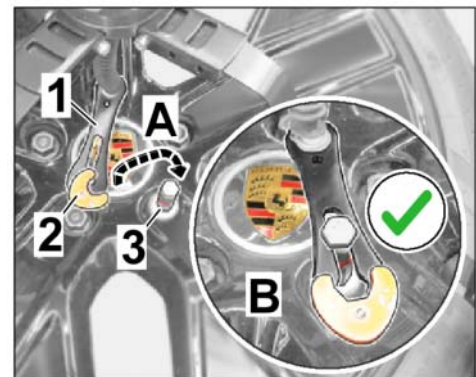

Figure 9
- 2.3.1 Engage fastening lever, with the safety flap (orange) visibly facing outwards, into a free groove on the spacer bolt (⇒ Figure 9-A and B-).